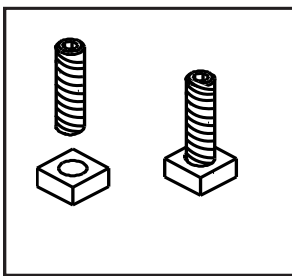

Figure 17.1
1. Thread Allen bolts through nuts until flush. **Figure 17.1.** The Allen bolts and nuts are included in the component pack inside the stove firebox.